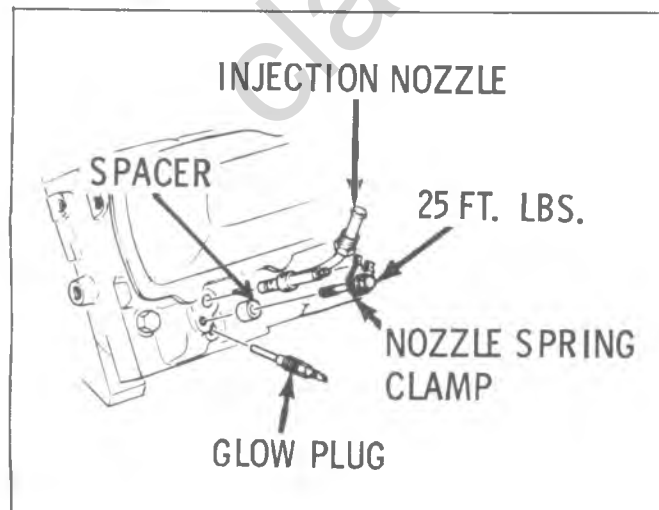

Fig. 6A6-44—Injection Nozzle Installation
1. If a nozzle is to be reinstalled after removal, a new compression seal and carbon stop seal must be installed after removal of the used seals. See figure 6A6-43 for seal installation.
2. Remove protective caps then install injection nozzle and spring clamp and spacer. Torque bolt to 25 lb. ft. (34 N·m) (Fig. 6A6-44).